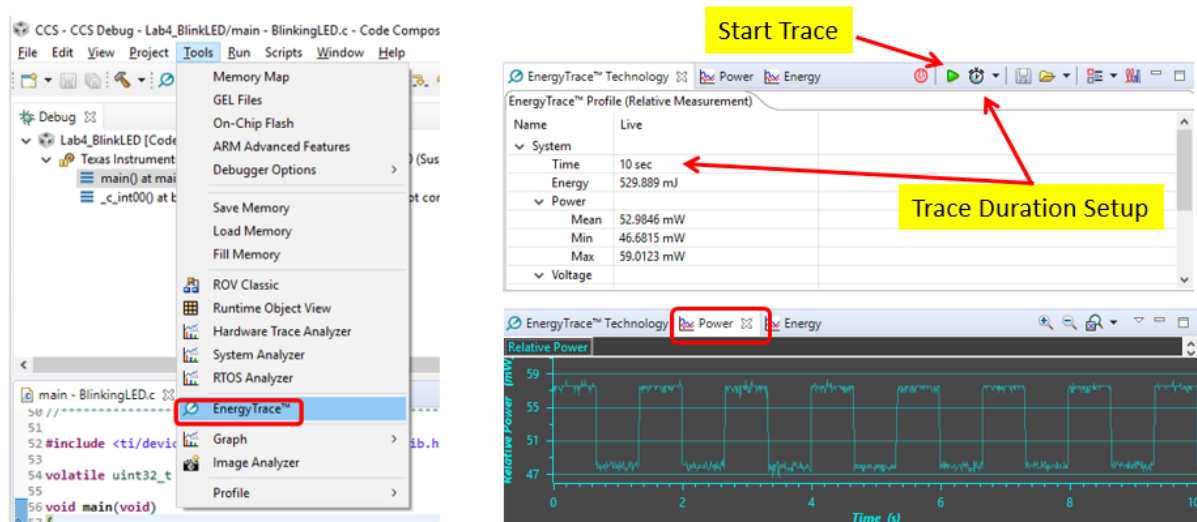

Fig 13: Energy Trace Tool
**#Task:** CCS is able to measure the power consumption of the board. To enable energy tracing, go to the Tools drop down menu to select “Energy Trace” (Fig. 13).
**#Question:** Explain why the power consumption waveform in Fig13 is a wave with fixed period.